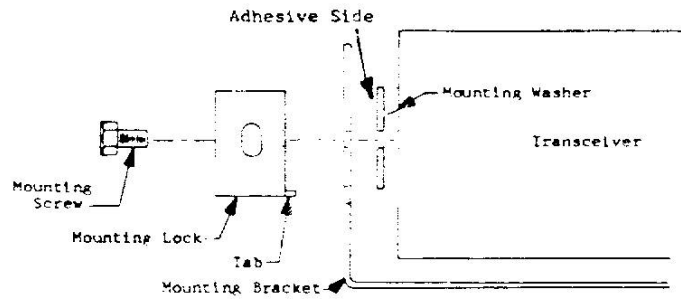

Figure 2-3. Mounting-Lock Installation
3. Secure mounting lock to unit, using one of the hex-head mounting screws provided. Be sure that screw passes through correct hole in the mounting bracket. See Figure 2-3.